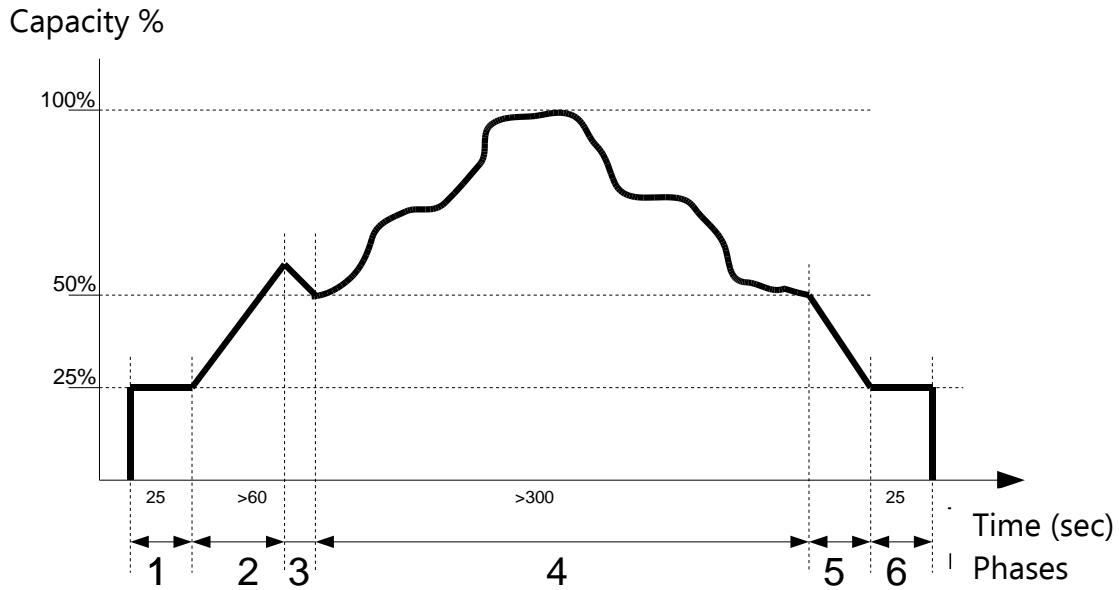

Fig. 23 Logic control of solenoid valves for stepless configuration
Cooling capacity control is obtained using solenoid valves (14),(15) and (19) which have to be excited according to logic control shown in Fig. 23 and Table 8.